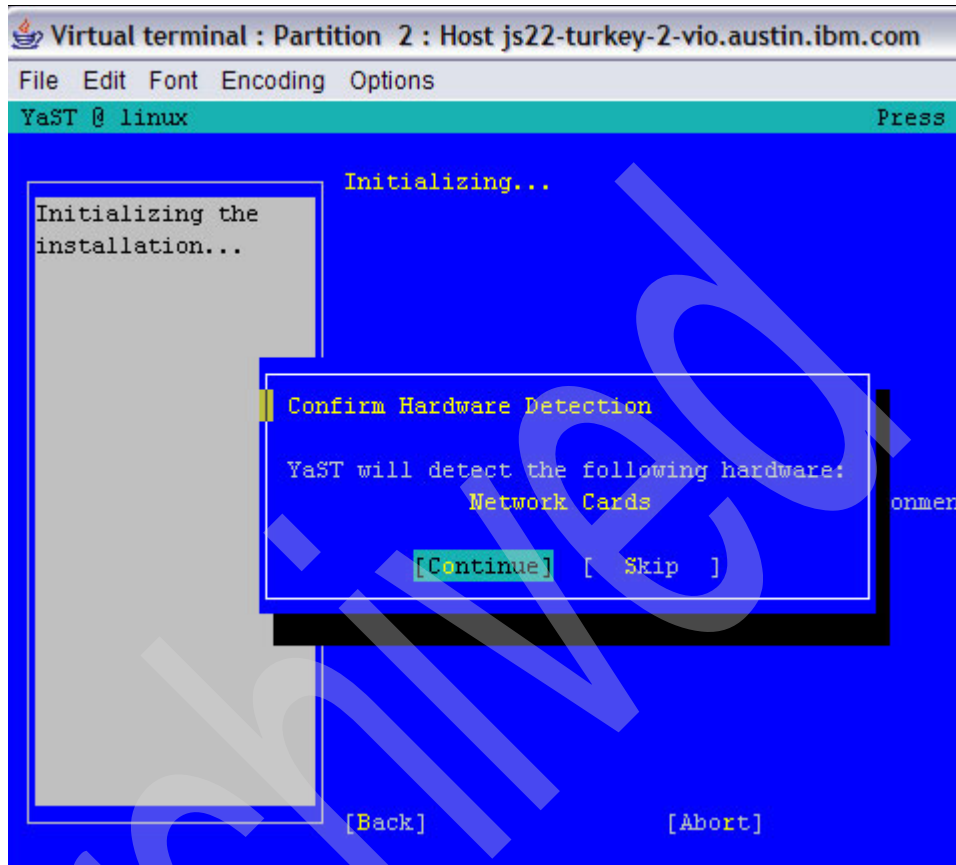

Figure 7-14 Confirm hardware detection window
8. After booting from the appropriate storage device YaST will start again. Select **[Continue]** for each hardware device YaST detects, as shown in Figure 7-14 on page 320.